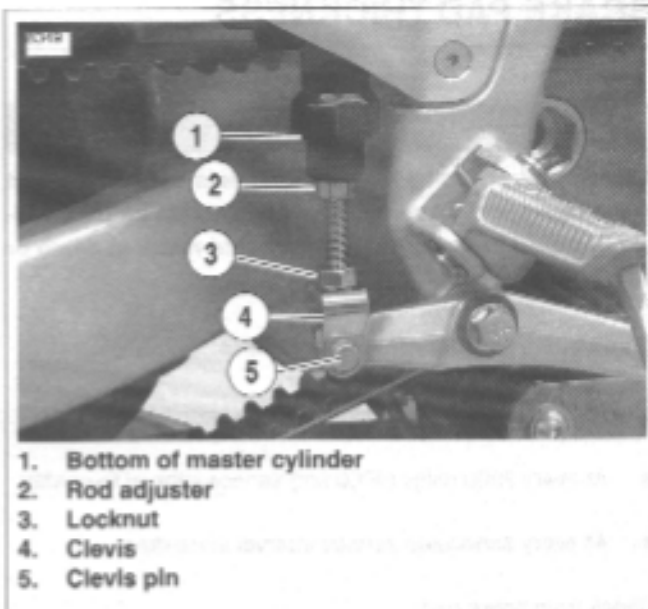

Figure 1-10. Pushrod Adjustment
1. See Figure 1-10. Measure distance from bottom of master cylinder (1) to center of lower adjuster rod clevis hole (5).
See Figure 1-10. Minimum allowable pushrod thread engagement inside clevis (4) is 0.24 in. (6.0 mm).
- a. See Figure 1-10. Loosen locknut (3) while holding rod adjuster (2). Move locknut away from top surface of turn buckle (4).
- c. Return locknut (3) to fit flush against top surface of clevis.